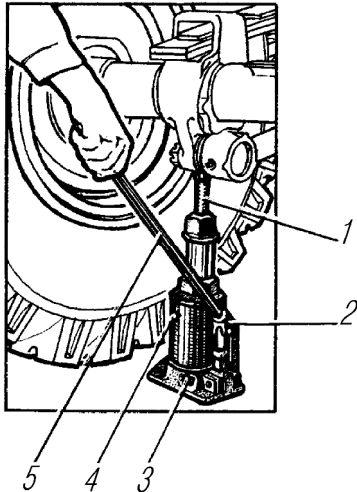

Fig. 127. Using jack:
- set the jack in the required position, turn out screw 1 (Fig. 127) as desired. If the ground is soft, place a strong wooden board or some other flat object under the jack base beforehand;